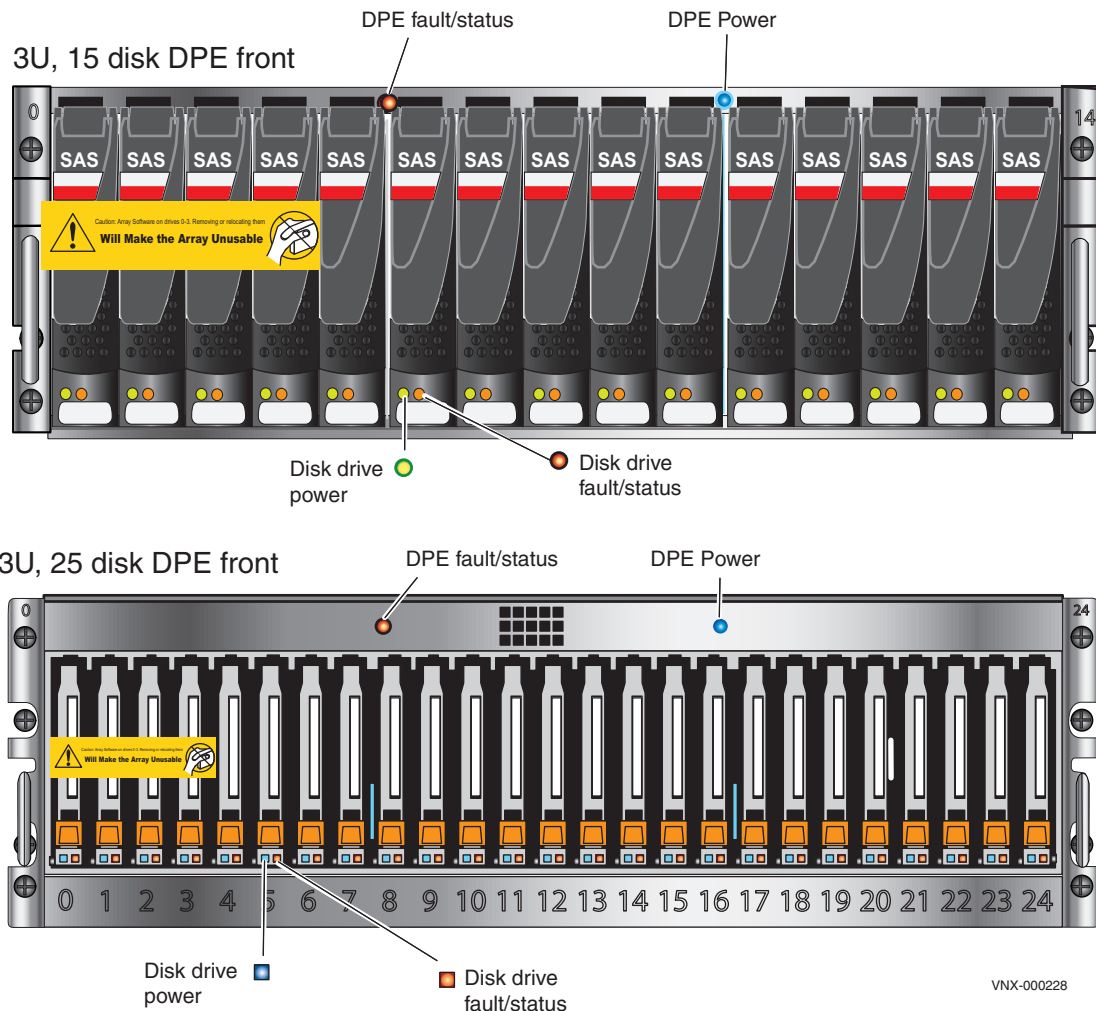

Figure 12 3U, 15 3.5" drive DPE and 3U, 25 2.5" drive DPE LEDs
1. Verify that the DPE Power LED located on the front is solid blue and the DPE fault/status is off as shown in Figure 12.